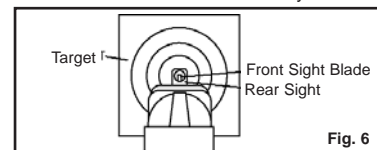

Fig. 6
- The soft air pistol is correctly aimed when the front sight blade is positioned exactly in the notch of the rear sight. The top of the front sight blade should be even with the top of the notch in the rear sight. The bulls-eye should appear to rest on the top of the front sight (Fig. 6).